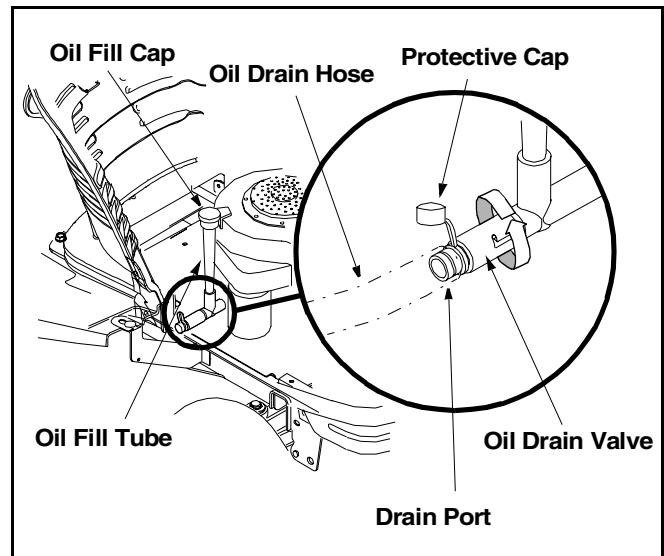

Figure 13
- Unscrew oil fill cap and remove dipstick from the oil fill tube. See Figure 13.
- Pop open the protective cap on the end of the oil drain valve to expose the drain port. See Figure 13.
- Push the oil drain valve in slightly, then rotate counterclockwise and pull outward to begin draining oil. See Figure 13.